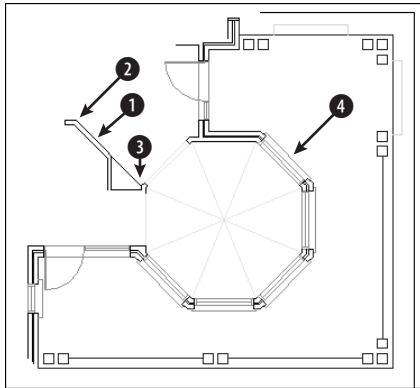

Figure 14-9: A house plan with an octagonal ceiling
2. Save the file as `ab14-02.dwg` in your AutoCAD Bible folder. This is part of a plan of a house with an unusual-shaped ceiling, as shown in Figure 14-9. OSNAP should be on. Set running object snaps to endpoint and intersection. If the Dimension toolbar doesn't appear, right-click any toolbar and check Dimension.
Select object to dimension: *Pick ① in Figure 14-9.*
Specify angle of dimension text: *Choose ② in Figure 14-9.*
Specify second point: *Choose ③ in Figure 14-9.*
Select object to dimension: *Pick ④ in Figure 14-9.*